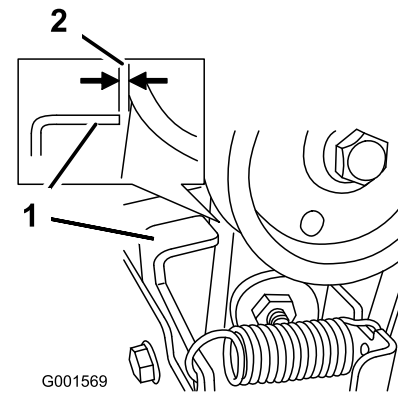

Figure 49
3. With the auger/impeller lever disengaged, ensure that the gap between the auger clutch assembly and the tab is 1/16 inch (1.5 mm) (Figure 49).